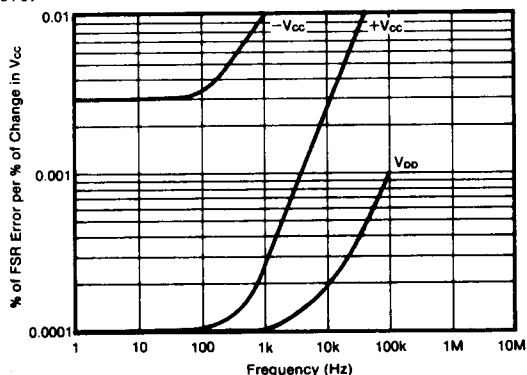

FIGURE 8. Power Supply Sensitivity vs Power Supply Ripple.
7.2 Power Supply Sensitivity. Power supply sensitivity is specified in Table I. Power supply sensitivity versus ripple frequency is shown in Figure 8.